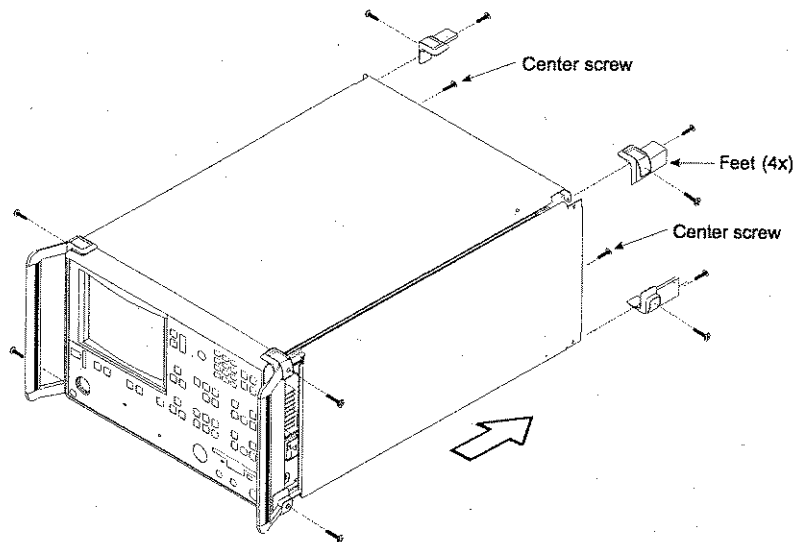

Figure 2-1 *Handles and Bumpers*
- Step 3. Using a Phillips screwdriver, remove the two handles or four bumper assemblies (and tilt bail, if installed) from the front of the unit, and the four feet at the rear (Figure 2-1). Save the screws for later use.